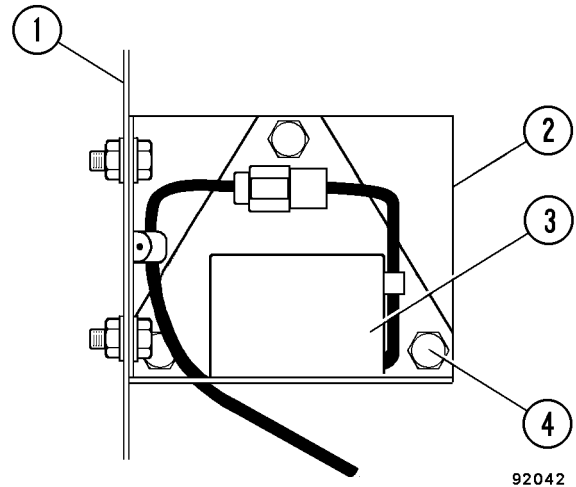

FIGURE 20-13. INCLINOMETER
2. Remove the three capscrews, nuts and lockwashers (4, Figure 20-13) and inclinometer (3).
1. Install inclinometer (3, Figure 20-13) with cap-screws, nuts and lockwashers (4).
2. Loosen the three inclinometer mounting cap-screws (4, Figure 20-13) and rotate the inclinometer until a voltage range of  $2.6 \pm 0.1$  volts can be measured (using a volt-meter) at pins 1 and 2 of the inclinometer harness connector.
3. Tighten all capscrews (4, Figure 20-13) to standard torque, after the adjustment.